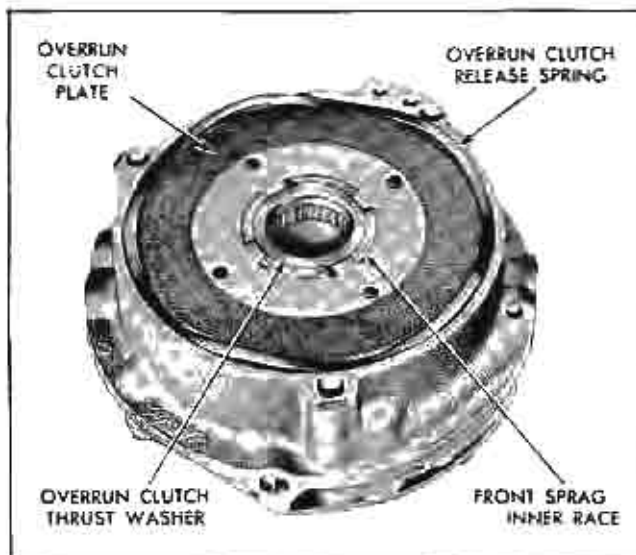

Fig. 117 Overrun Clutch Parts Installed in Pump
20. Place clutch release spring on top of piston and retain with petrolatum (Fig. 117).